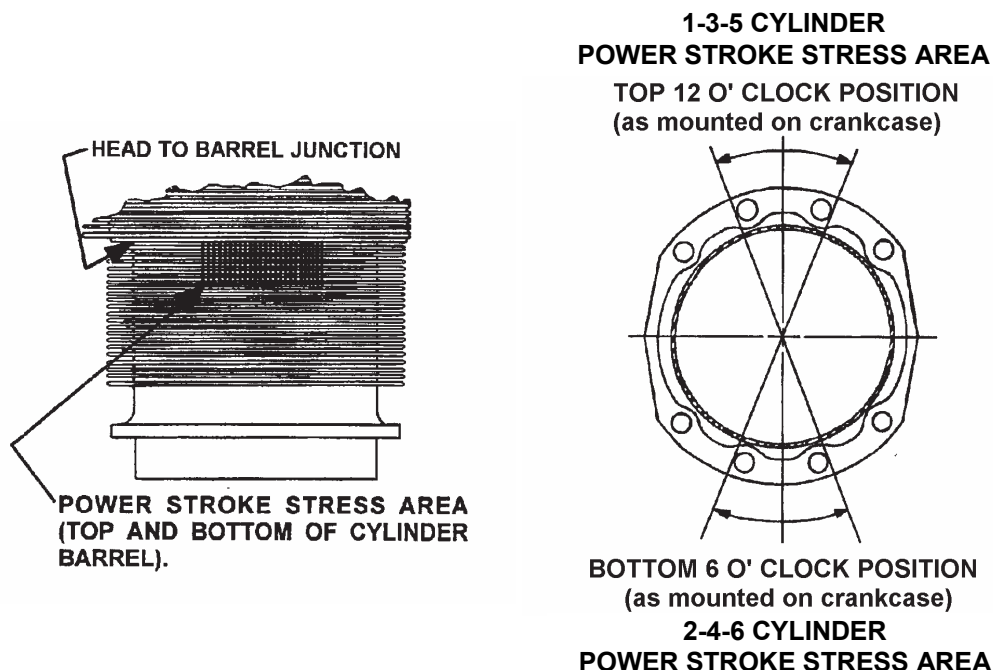

Figure 6-64. Cylinder Power Stroke Areas
2. Inspect the cylinder barrel power stroke areas (Figure 6-64) with an inspection mirror and light for cracks, sharp indentations, chafing, damage or pitting. Repair discrepancies according to instructions in the primary ICA. The power stroke areas include the: